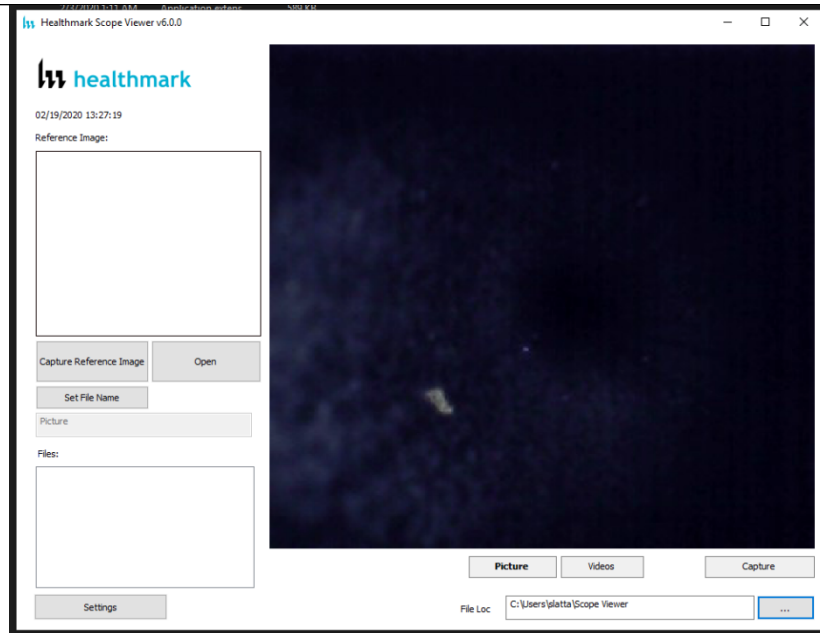

Figure 15
1. Click the ellipse button. **Fig. 15**